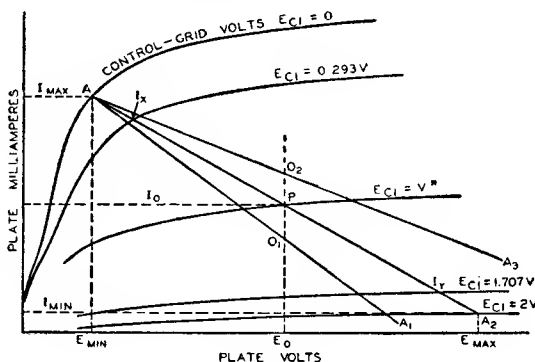

Fig. 22
**Power output for a pentode or a beam power tube as a class A amplifier** can be calculated in much the same way as for triodes. The calculations can be made graphically from a special plate family of curves, as illustrated in Fig. 22.